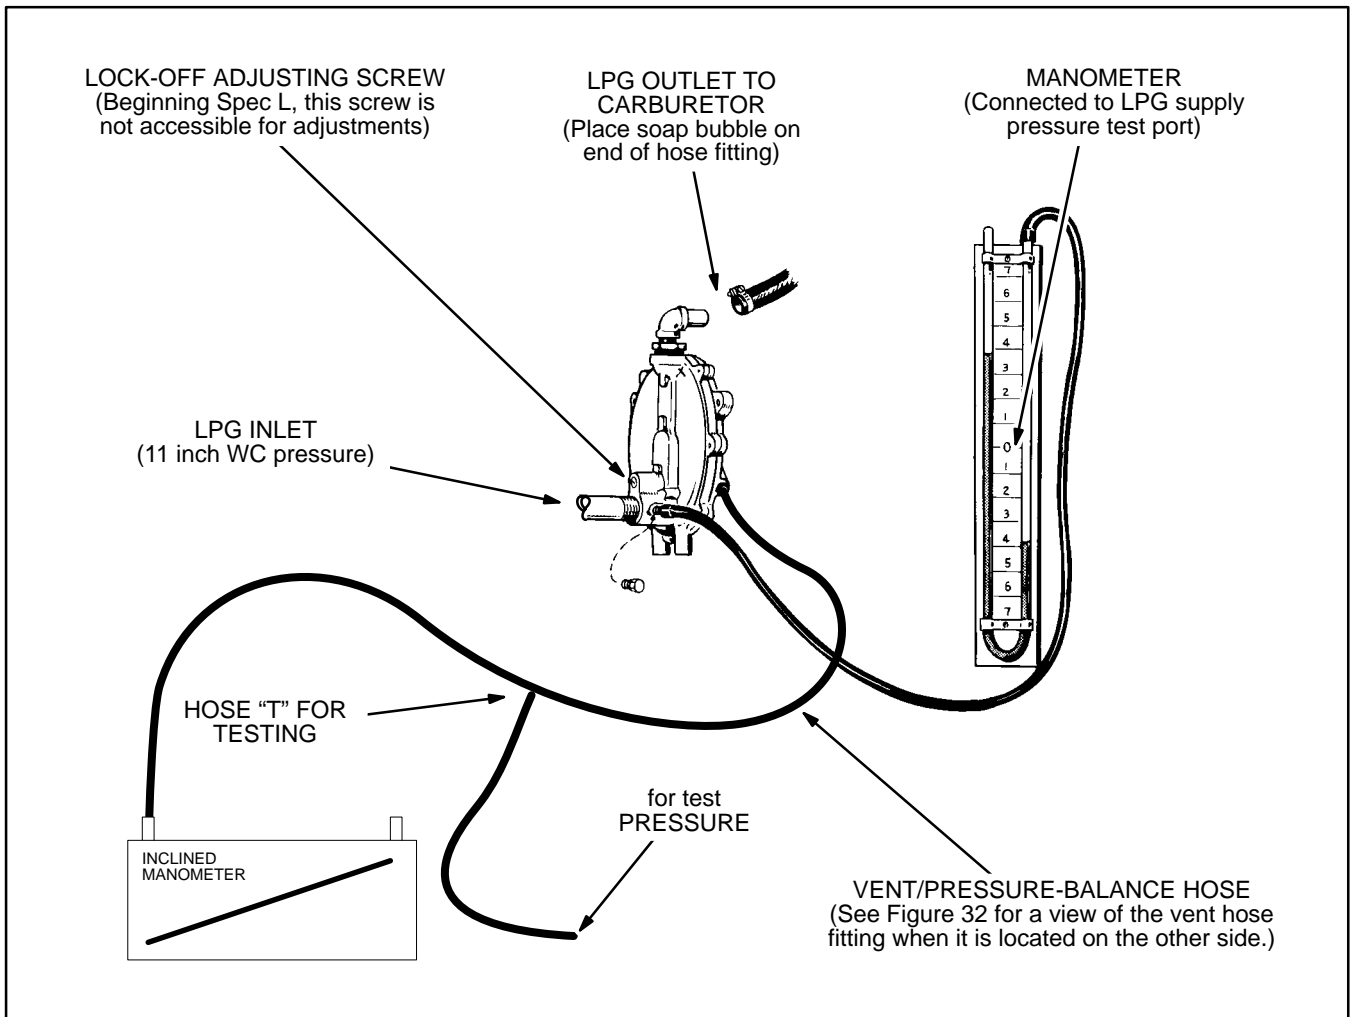

FIGURE 33. LPG SUPPLY PRESSURE AND REGULATOR LOCK-OFF PRESSURE
2. Remove the 1/8 inch pipe plug from the regulator test port (Figure 33) and connect a manometer calibrated in inches or mm WC having a scale range of at least 14 inches (350 mm).
1. Continue with the test setup for adjusting LPG supply pressure shown in Figure 33. If the regulator is being tested on the bench, connect it to a source of air pressure regulated to 11 inches (280 mm) WC.